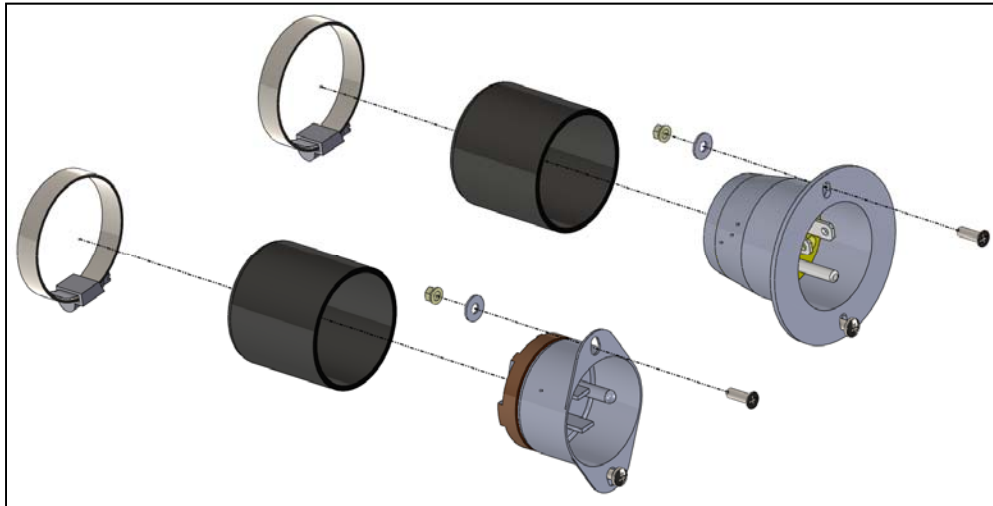

Figure 1. Installation order, use appropriate screw for mounting location.
Reference Figures 1 thru 5.
1. Mount the flush mount plug using appropriate hardware (Figure 1).
2. Insert the power cable(s) through the circular clamp and insulating cap (Figure 1).